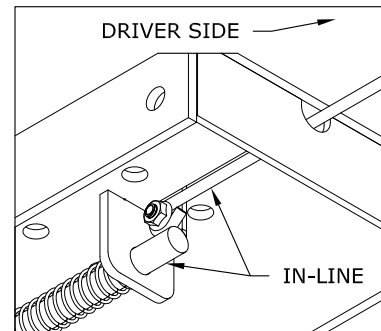

FIGURE E1: Center Section
1. Install the latch pin release handle by inserting it through the slot in the end of the center section on the driver's side of the truck. Align the handle eyelet with the square hole in the latch pin so the handle is in line with the latch as shown in figure E1.